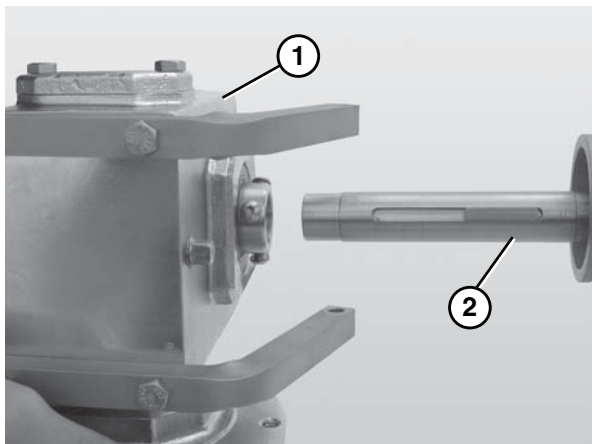

Figure 27
- Slide the gearmotor assembly (Figure 27, item 1) off the drive spindle (Figure 27, item 2).